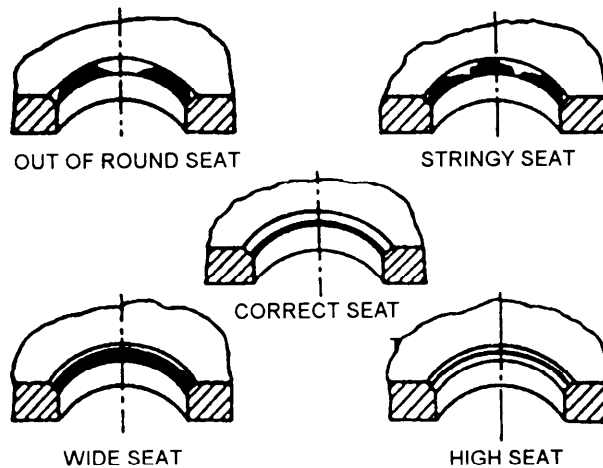

Figure 13-3.—Examples of spotted-in valve seats.
**SPOTTING-IN.**—Use this procedure to visually determine whether or not the seat or disk make good contact with each other. To spot-in a valve seat, first apply a thin coating of prussian blue evenly over the entire machined face surface of the disk. Next, insert the disk into the valve and rotate it a quarter turn, using a light downward force. The prussian blue will adhere to the valve seat at points where the disk makes contact. Figure 13-3 shows the patterns of prussian blue on a correct seat and on imperfect seats. After you have noted the condition of the seat surface, wipe all the prussian blue off of the disk face surface, then apply a thin, even coat on the contact face of the seat. Again place the disk on the valve seat and rotate the disk a quarter turn. Examine the resulting blue ring on the valve disk. If the ring is unbroken and of uniform width, and there are no cuts, scars, or irregularities on the face, the disk is in good condition. If the ring is broken or wavy, the disk is not making proper contact with the seat and must be machined.
When you first spot-in a machined valve seat and disk, the seat contact will be very narrow and located close to the edge of the bore. Grinding-in, using finer compounds as the work progresses, causes the seat contact to become broader until it looks like the “correct seat” shown in figure 13-3. The contact area should be a perfect ring, covering approximately one-third of the seating surface.